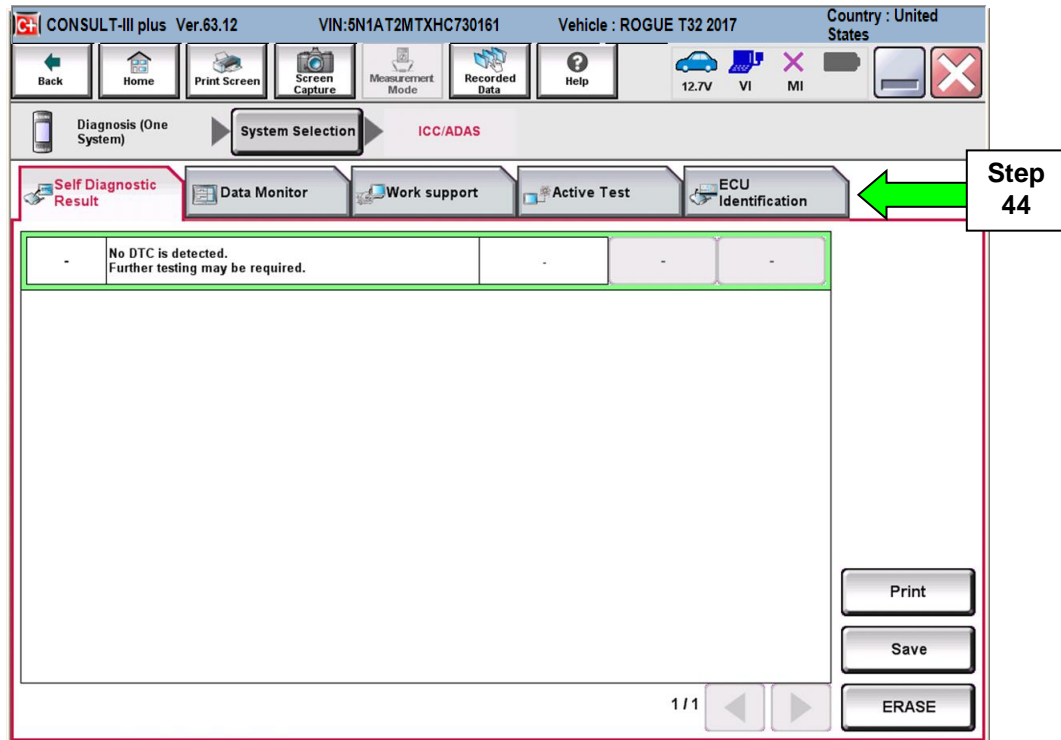

Figure 27
43. Verify there are no DTC's present as shown in Figure 27.